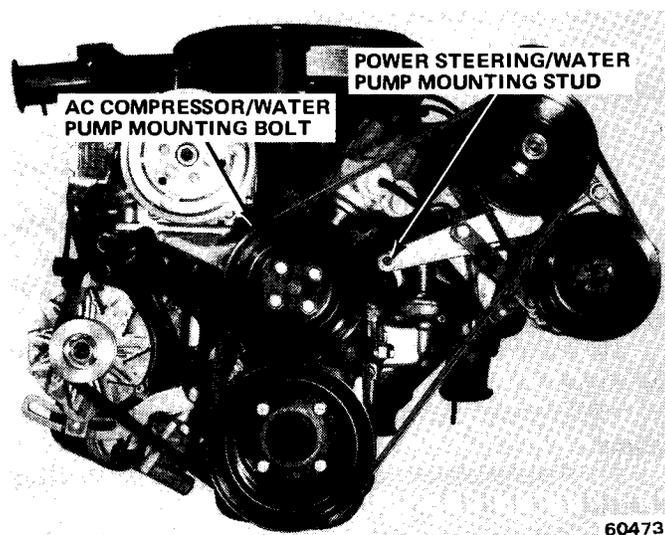

Fig. 2-14 Water Pump Mounting—V-8 Engine
(6) If vehicle is equipped with air conditioning, install a double nut on air conditioning compressor bracket to water pump stud and remove stud (fig. 2-14).
(7) Remove alternator and mount bracket assembly and place aside. Do not disconnect wires.
(8) If equipped with power steering, remove two nuts that attach power steering pump to rear half of pump mounting bracket.
(9) Remove two bolts that attach front half of bracket to rear half.
(10) Remove remaining upper bolt from inner air pump support brace, loosen lower bolt and drop brace away from power steering front bracket (fig. 2-14).
(11) Remove front half of power steering bracket from water pump mounting stud.